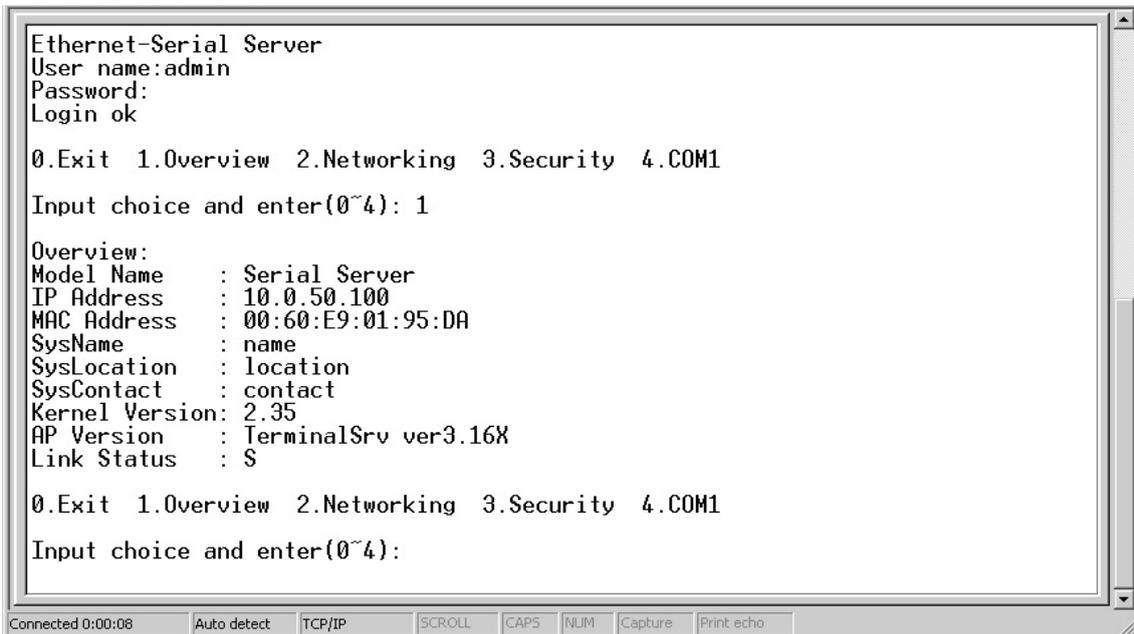

Figure 3.6 Overview
4. Select **1** from **Input choice and enter (0~4):** to enter the overview page as follows:(Figure 3.6)